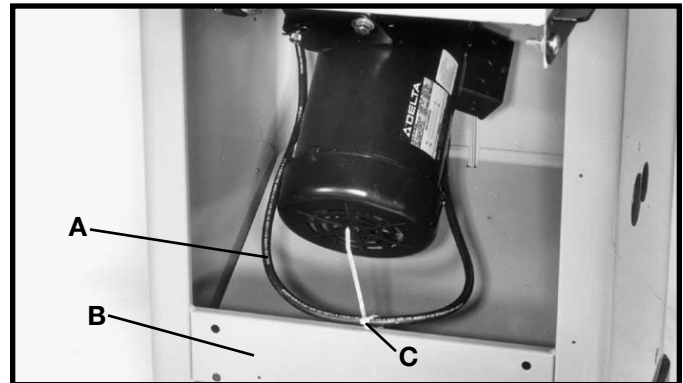

Fig. 31
3. Fasten motor cord (A) Fig. 31 to the saw frame cross member (B), using the cable tie (C) supplied with the saw. **CAUTION:** Before tightening the cable tie, make certain that cord (A) is free of any interference from the motor or saw blade at all possible positions of the motor.
4. After the cable tie is tightened, cut off excess tail of cable tie (C) Fig. 31.